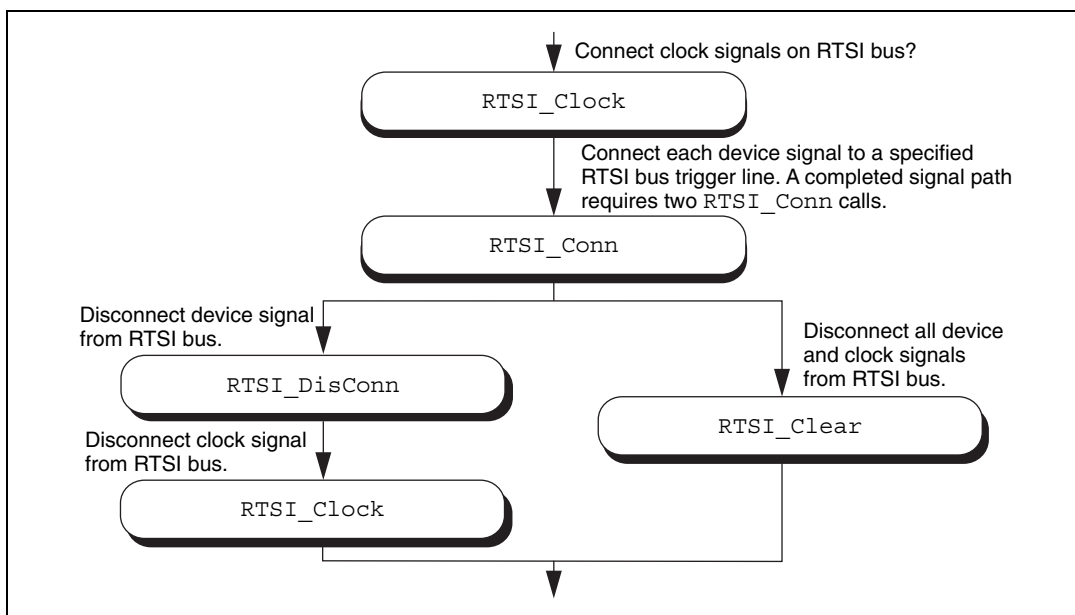

Figure 3-40. Basic RTSI Application Calls
3. Disconnect the signals from the RTSI bus. Figure 3-40 illustrates the normal order of RTSI function calls.